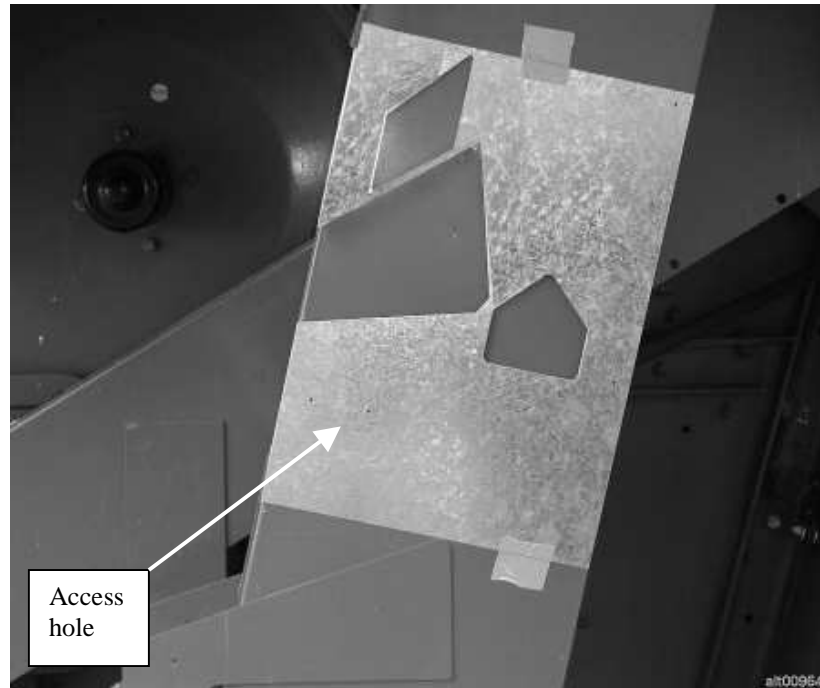

Figure 16. Marking template
2. Position template on clean grain elevator as shown in Figure 16. Right side of template should be flush with right edge of elevator. Bottom of template should rest on lower reinforcement brace. Extra cutout in template is to go around a reinforcement bar on 1680 and 1688 machines.